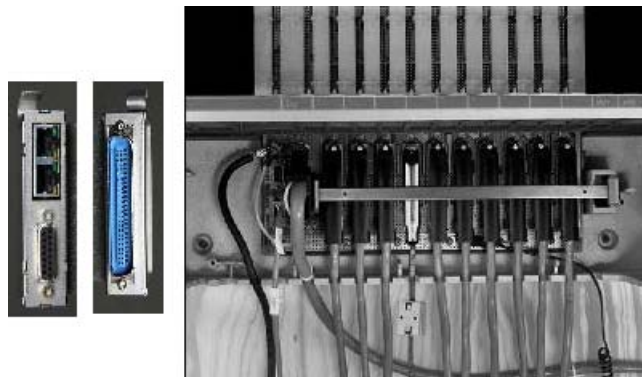

Figure 37: Cabinet
- Connect the MGC DECT Clock Reference Cable (NTDW67AAE5) to 15-pin DSUB connector on the Breakout Adapter Figure 37: Cabinet on page 173 shows the Cabinet.